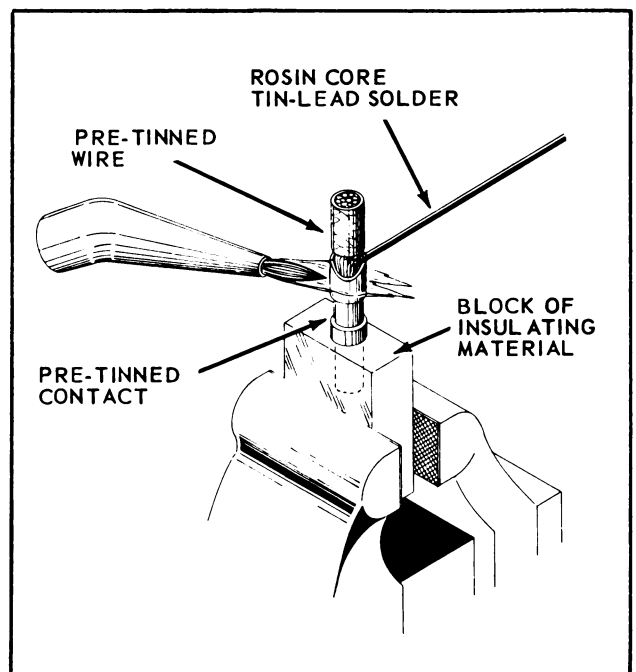

Figure 6-15. Torch Soldering Thermocouple Wire to "AN" Connector Contact
d. Insert proper pretinned wire into contact and solder using resistance pliers or torch. Use only rosin core solder for this operation. See Figure 6-15.